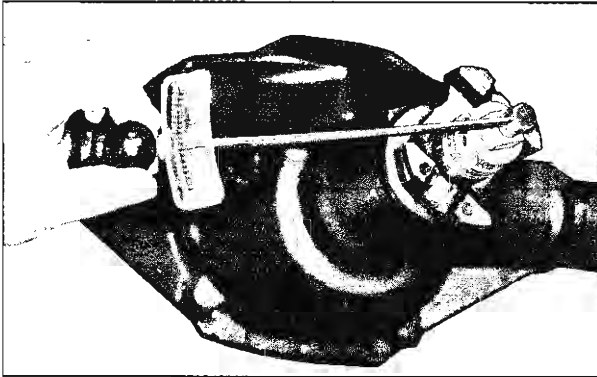

Fig. 45—Measuring Drive Pinion Bearing Preload
4. Using Tool J-5853 with Adapter J-5810 and a suitable socket on the pinion flange nut, rotate the pinion through several complete revolutions and record the torque required to keep the pinion turning (fig. 45). If flange is to be reused, mark pinion and flange for reassembly in the same relative position.